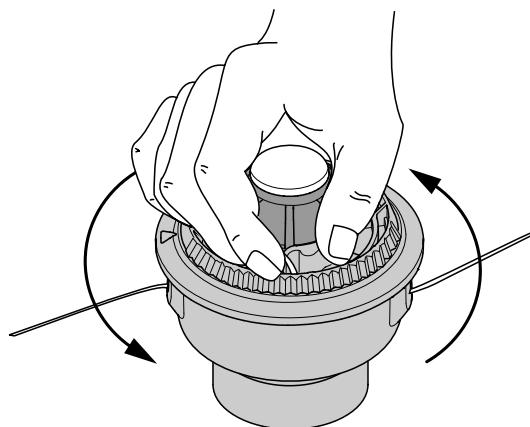

Fig. 45
- Hold the outer spool. Wind the inner reel counterclockwise until approximately four (4) inches (102 mm) of line remain (Fig. 45).